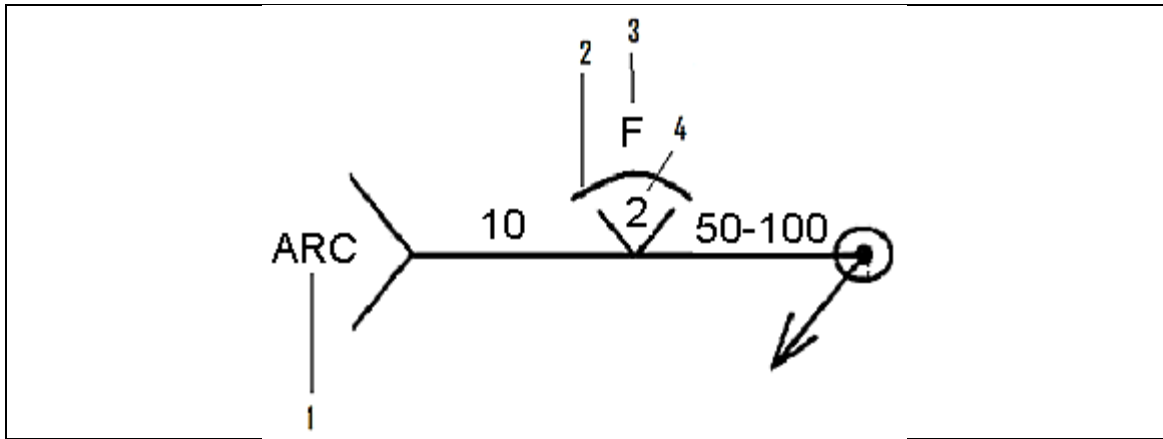

FIGURE 6.1
What is the meaning of the welding symbols as indicated in FIGURE 6.1 marked 1-4? (4)